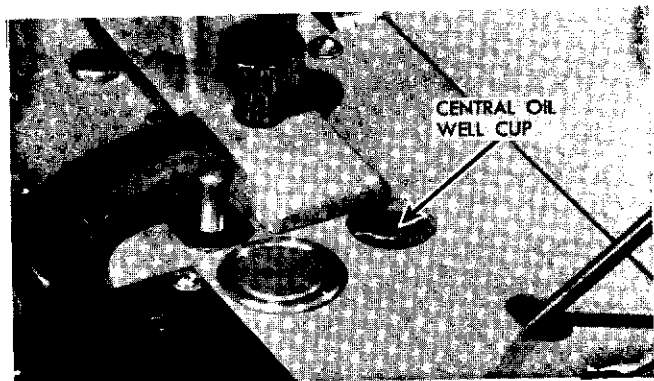

Figure 3-1. Central Oil Well Cup -
3-3. LUBRICATION OF INTERNAL PARTS. Internal lubrication for the AQ-2A(1) projectors is supplied through a one-point feed lubrication system. Oil is applied to the central oil well cup (figure 3-1) on top of the projector case and is fed through oil tubing to all internal mechanism bearings and to the intermittent mechanism reservoir. On AQ-2A(3) projectors, the oil well cup and tubing have been eliminated. A felt pad